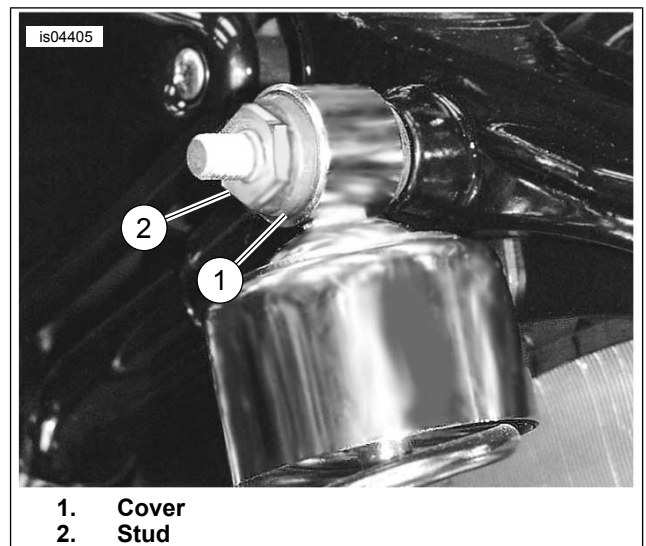
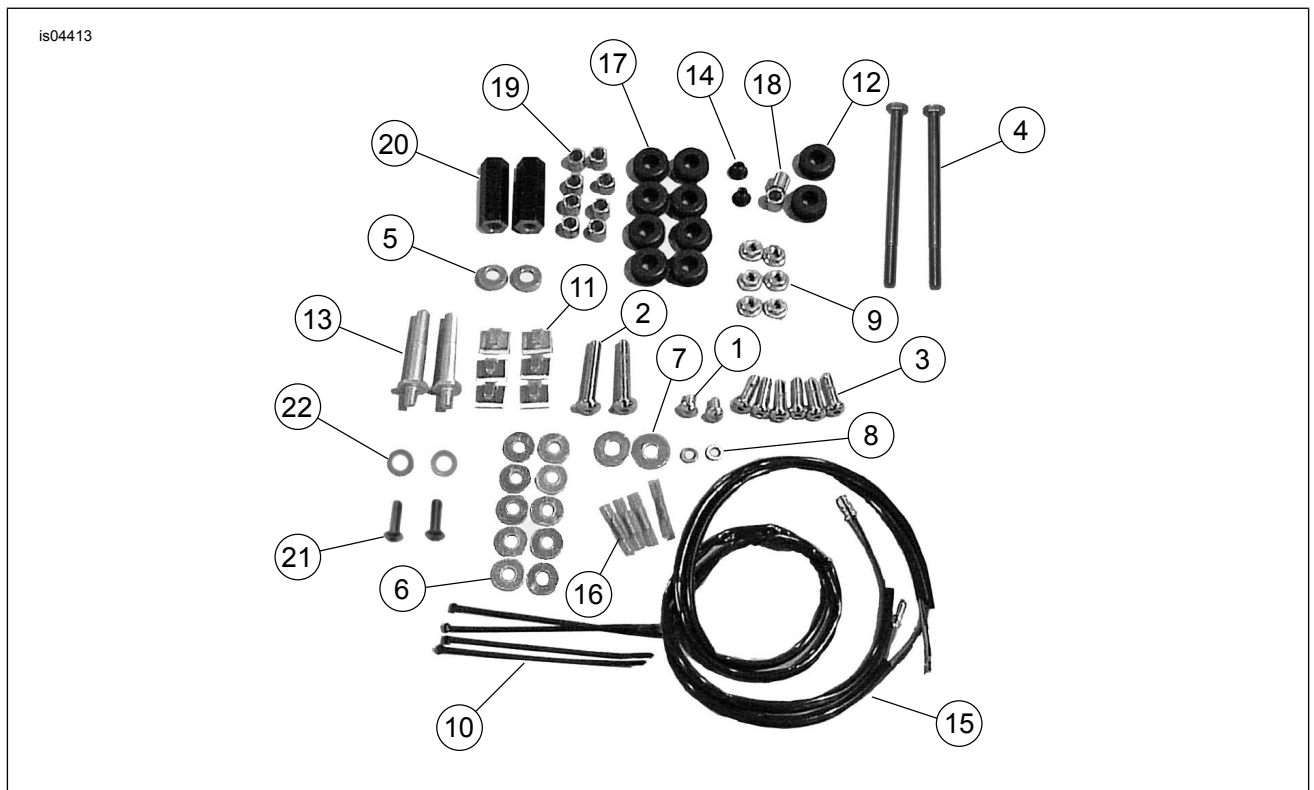

Figure 13. Shock Mount Cover and Stud
Figure 17. Service Parts: Saddlebag Bracket Hardware Kit (91457-00B)
- d. See Figure 13. Put stud cover (1) and stud (2) (Figure 17, Item 13) on top of shock.
6. See Figure 17. Remove screw (4) temporarily attached to saddlebag.
11. See Figure 17. Hold nut (24) inside saddlebag to attach screw.
12. Snap vinyl cap (23) onto exposed threads.